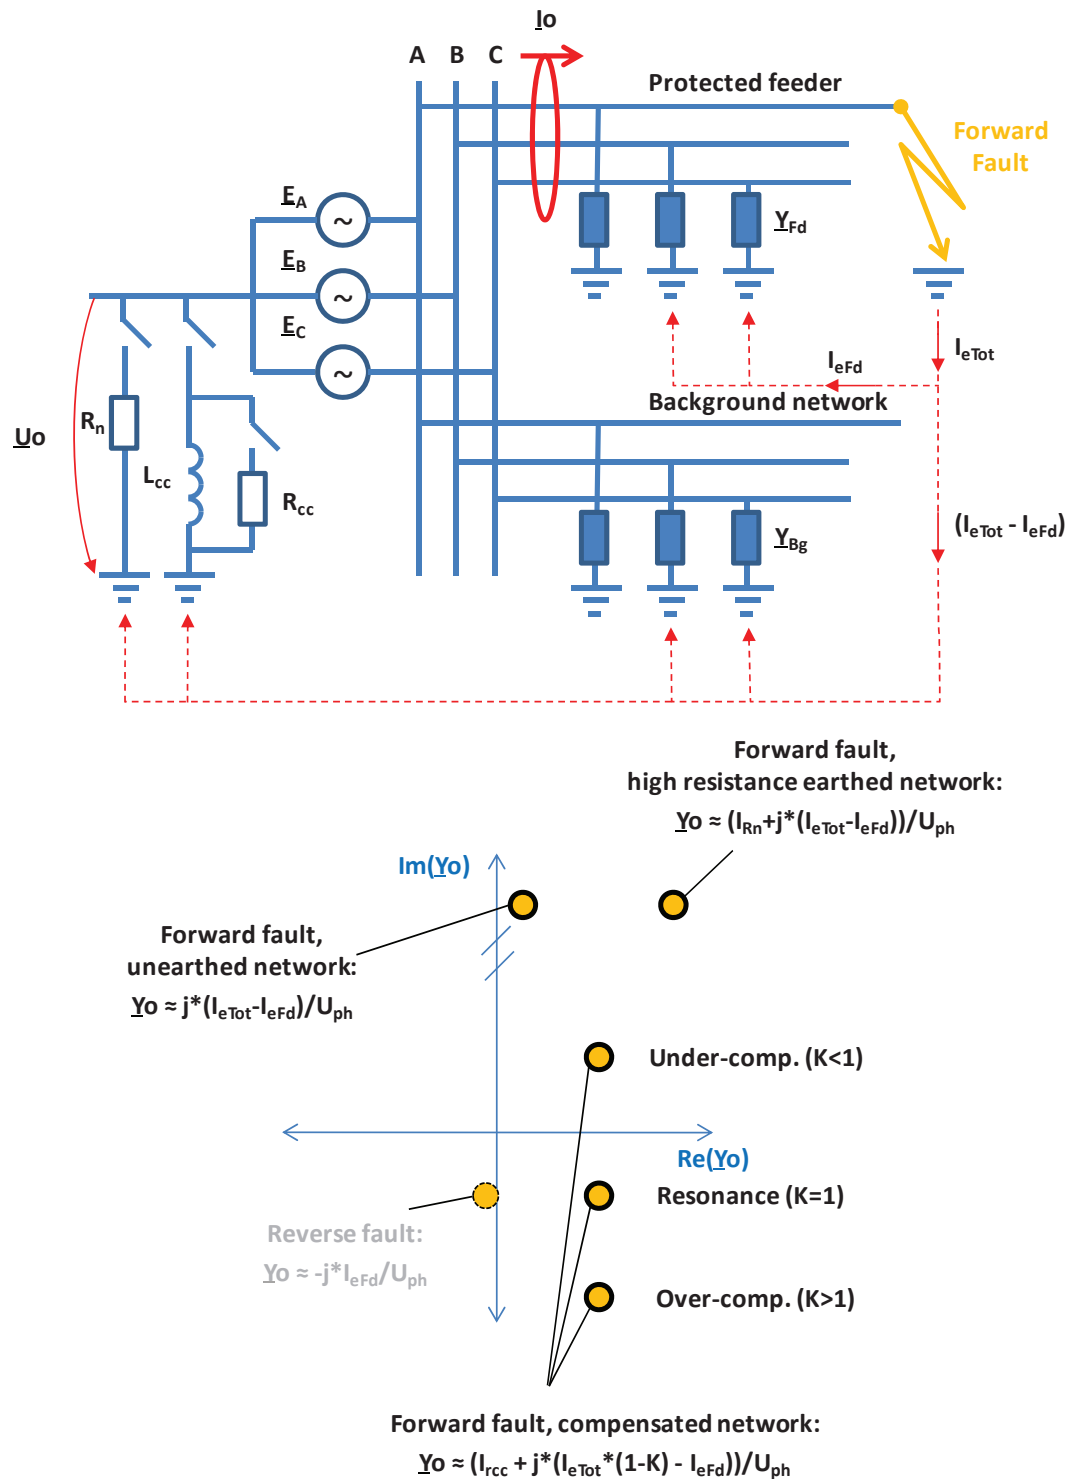

Figure 215: Admittance calculation during a forward fault
*Equation 31* shows that in case of a fault inside the protected feeder in unearthed networks, the measured admittance equals the admittance of the background network. The admittance is dominantly reactive; the small resistive part of the measured admittance is due to the leakage losses of the background network. Theoretically, the measured admittance is located in the first quadrant in the admittance plane, close to the  $\text{im}(Y_0)$  axis, see *Figure 215*.
*Equation 33* shows that in case of a fault inside the protected feeder in compensated networks, the measured admittance equals the admittance of the background network and the coil including the parallel resistor. Basically, the compensation degree determines the imaginary part of the measured admittance and the resistive part is due to the parallel resistor of the coil and the leakage losses of the background network and the losses of the coil. Theoretically, the measured admittance is located in the first or fourth quadrant in the admittance plane, depending on the compensation degree, see *Figure 215*.
*Equation 35* shows that in case of a fault inside the protected feeder in high-resistance earthed systems, the measured admittance equals the admittance of the background network and the neutral earthing resistor. Basically, the imaginary part of the measured admittance is due to the phase-to-earth capacitances of the background network, and the resistive part is due to the neutral earthing resistor and the leakage losses of the background network. Theoretically, the measured admittance is located in the first quadrant in the admittance plane, see *Figure 215*.